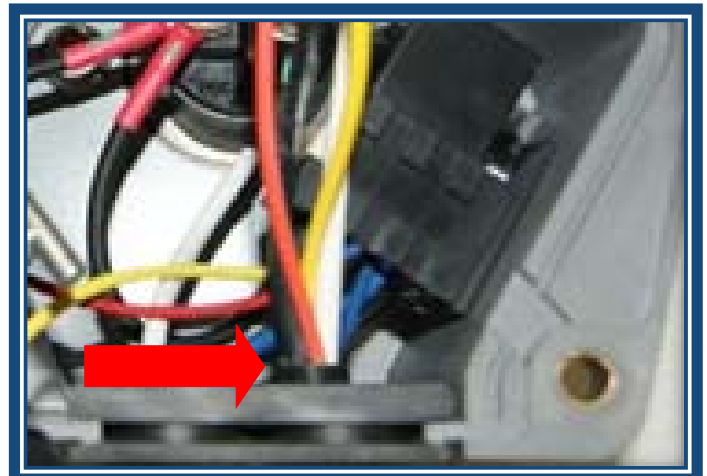

Figure 18
**Step 18:** Route the harness into the dual pole nose box through the hole in the bottom. (See Figure 18)